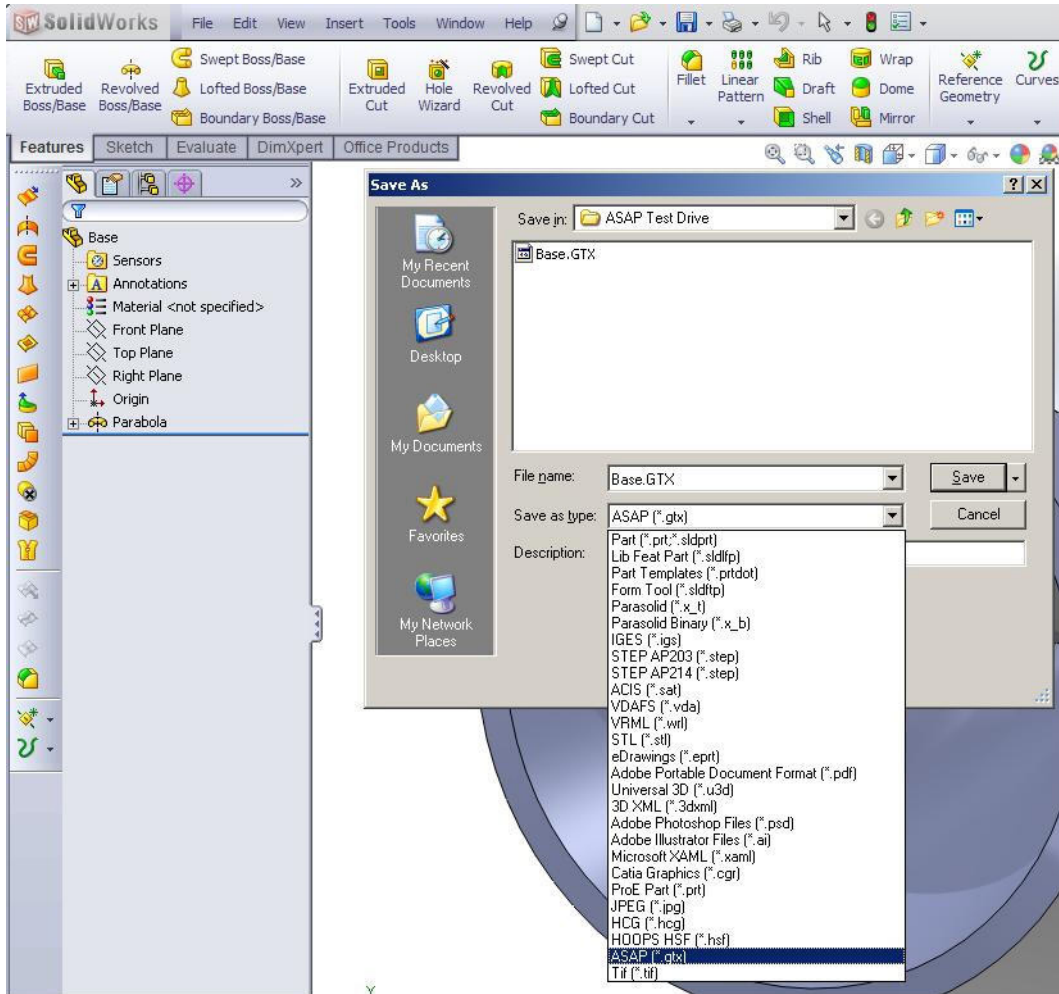

Figure 9 Saving the file in SolidWorks as an ASAP GTX file
- 4 Click File, Save As. For the **Save as type**, select **ASAP (*.gtx)**. Keep the default name “Base” and save the file as Base.GTX. Exit SolidWorks. See Figure 9.